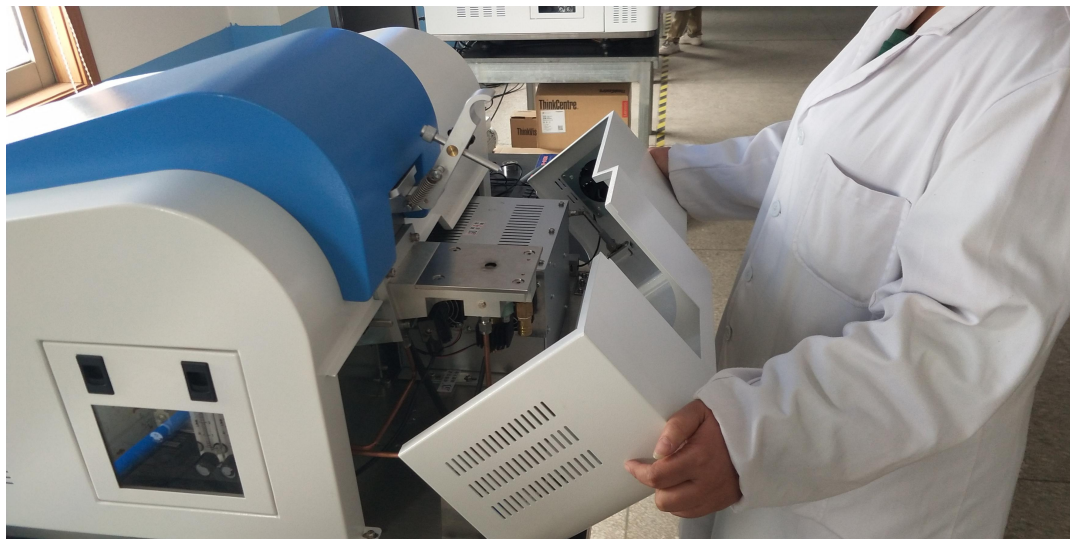

Figure 6-12 Opening the front door of the instrument
Step 1 Turn off the light source button and the main power button to open the front door of the machine, as shown in Figure 6-12.